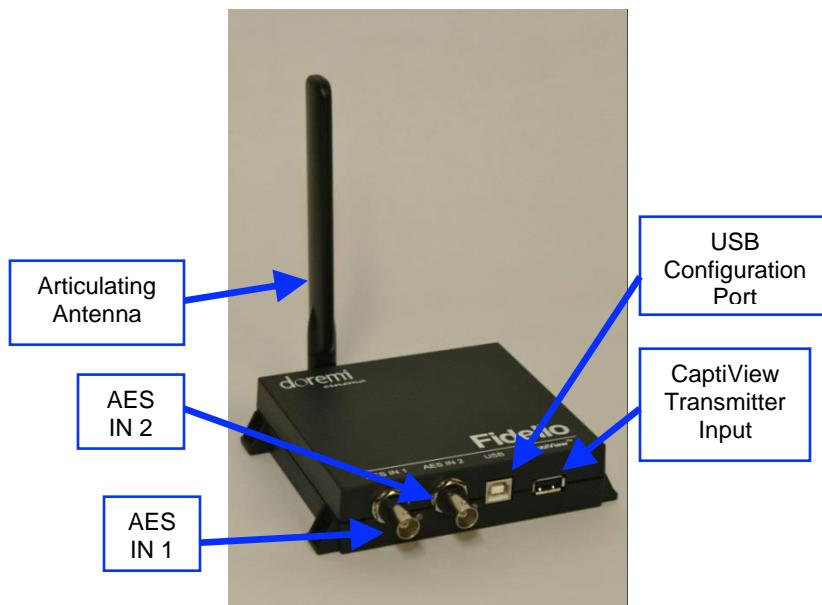

Figure 1: Fidelio Transmitter
The Fidelio Transmitter is the device that will transmit the Hearing Impaired (HI) or Visually Impaired Narrative (VI-N) audio track from the Digital Cinema Package (DCP) to the Fidelio Receiver (Figure 1). You will need one Fidelio Transmitter for every auditorium you choose to enable.